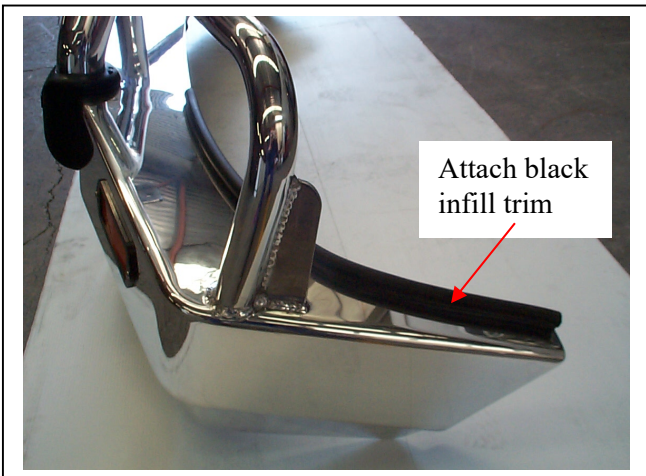
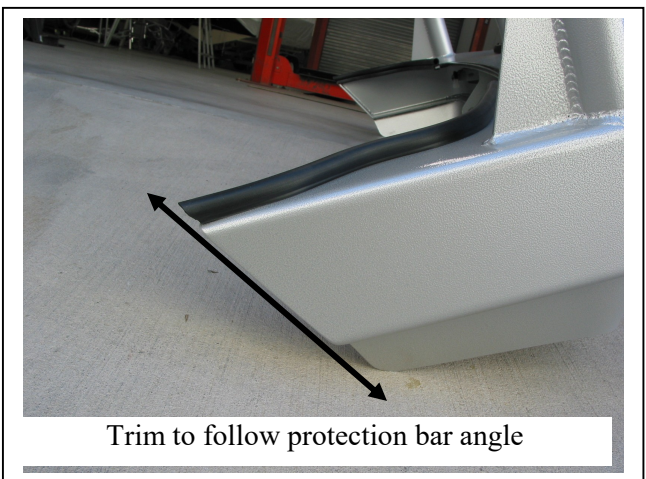

Figure 3
Figure 5
5. Attach infill trim (supplied) to top sides of ECB protection bar. **NOTE:** Trim 30mm off lower edge so trim will sit over end of protection bar. **See figures 3 and 4. Trim excess off end to follow protection bar. See figure 5. NOTE:** Seal any exposed edges of trim with silicone or similar to avoid corrosion of inner steel.